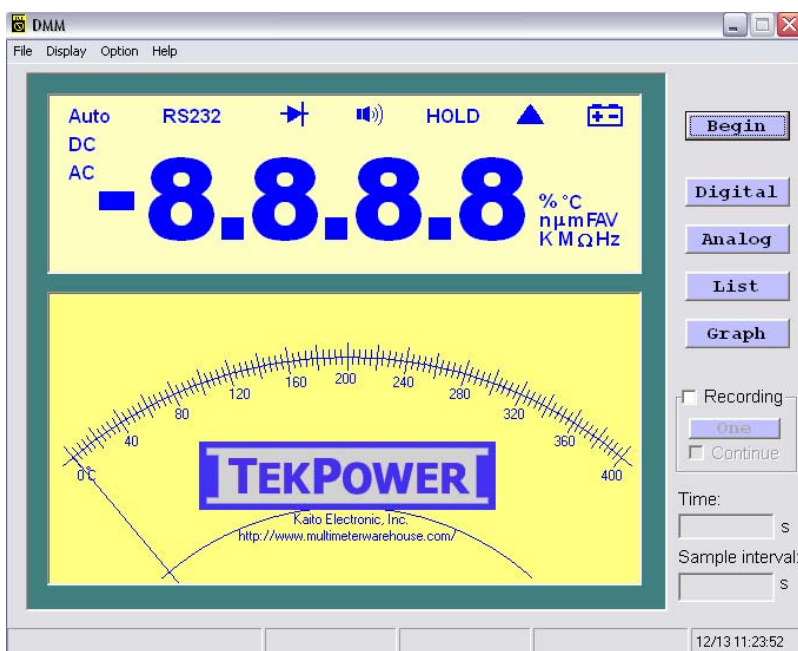

Figure 3. DMM software window.
4. In the meantime, connect the DMM to the PC and open the DMM software. You may start to see some voltage reading (see Figure 3). Do not try to set this value to zero by using the ZERO knob in the FID controller.